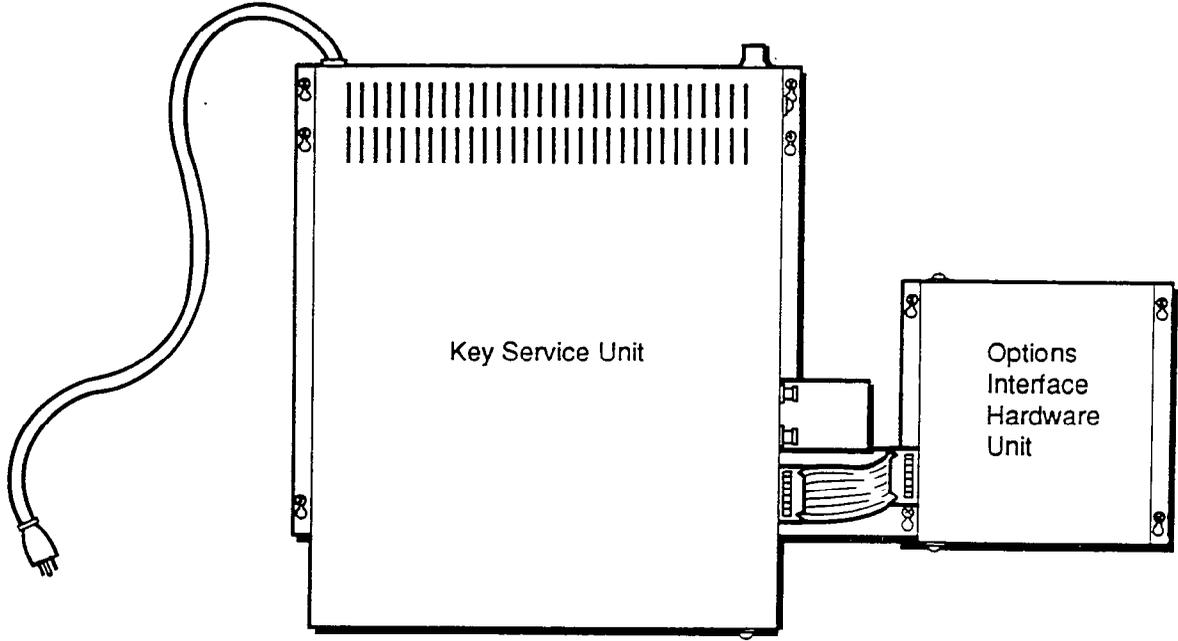

Figure 3-4 Installation Complete
- Step 5. Mount the Options Interface Hardware Unit to the right of the KSU on the wooden backboard. Align the screw hole in the bottom left-hand corner of the Options Interface Hardware Unit with the screw hole in the connection plate (as shown in Figure 3-4). Fasten the Options Interface Hardware Unit to the wooden backboard with the four wood screws.